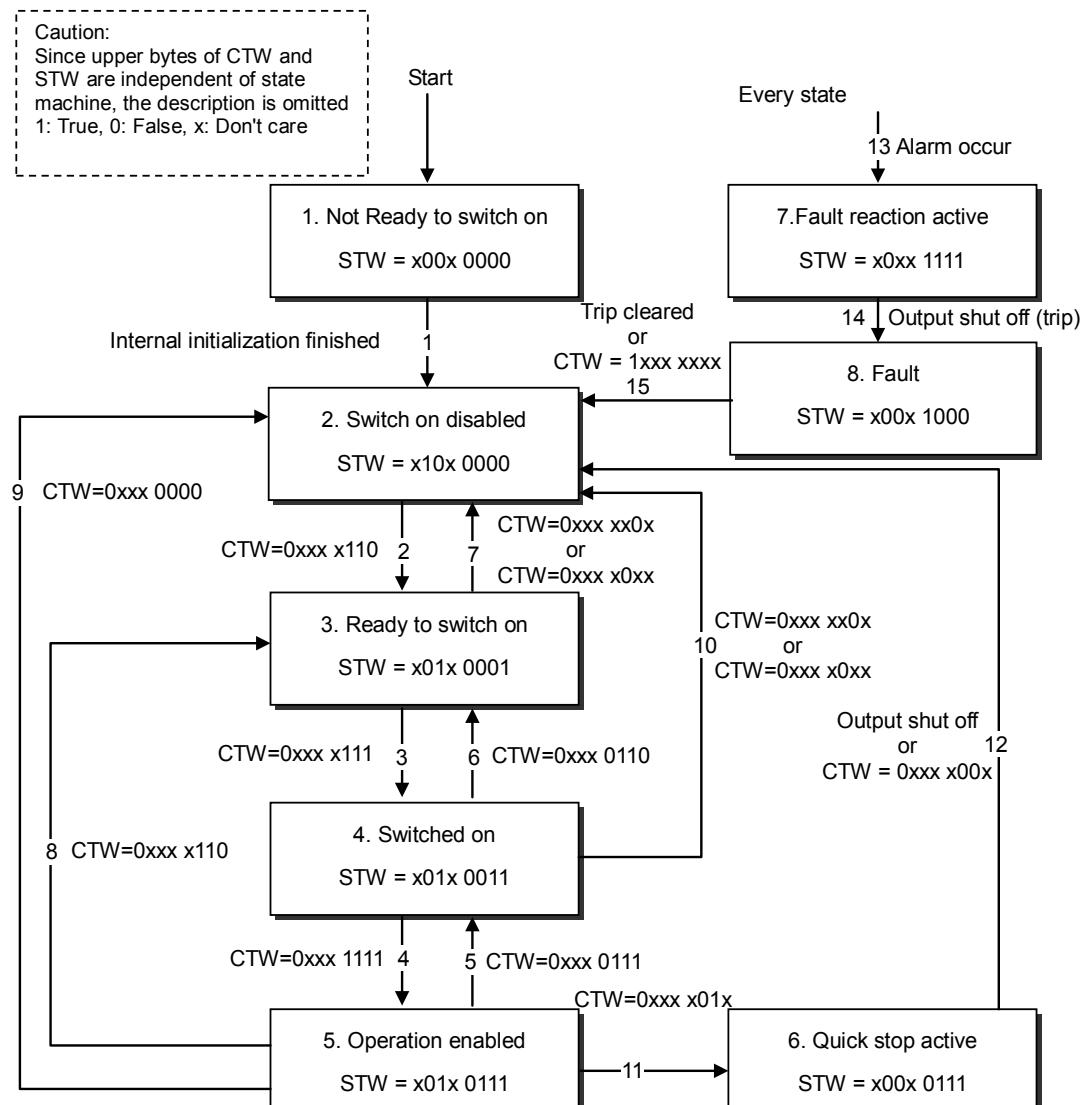

Figure 9.2-3 State Machine
bits 0 to 3 : Operates the state change of state machine. Refer to Figure 9.2-3.
- bits 0 to 2, 5, 6 : Displays the state machine status. Refer to Figure 9.2-3.
To run the inverter, operate the state machine (state transition diagram) defined with DSP 402. The state of the state machine is changed by Controlword (CTW in the figure) and the state is monitored by Statusword (STW in the figure). The Figure 9.2-3 shows the state machine and the Table 9.2-18 shows the commands to the inverter during each state transition.